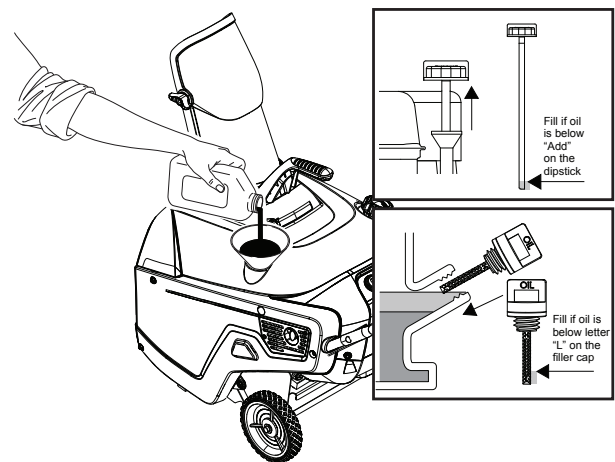

Figure 25
9. With the snowthrower in the operating position, carefully pour oil into the oil fill hole until "Full" on the fill cap/dipstick line (Figure 25).